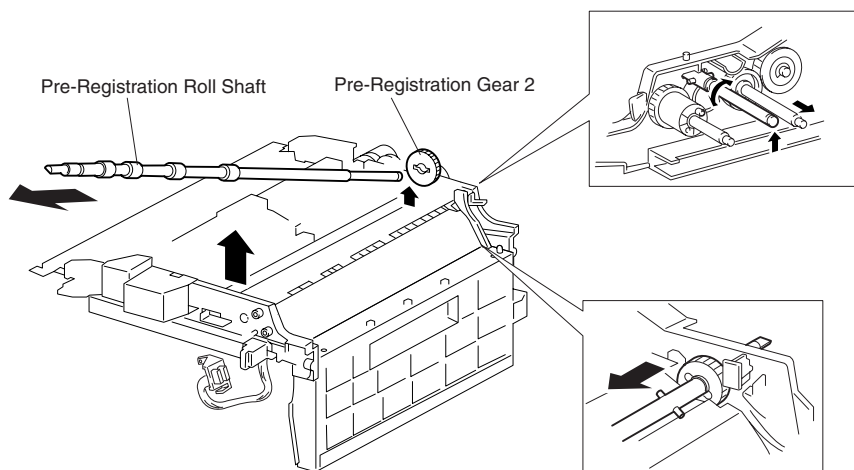

Figure 3
8. Slide the Pre-Registration Roll Assembly free of Pre-Registration Gear 2 and remove the Shaft (Figure 3).